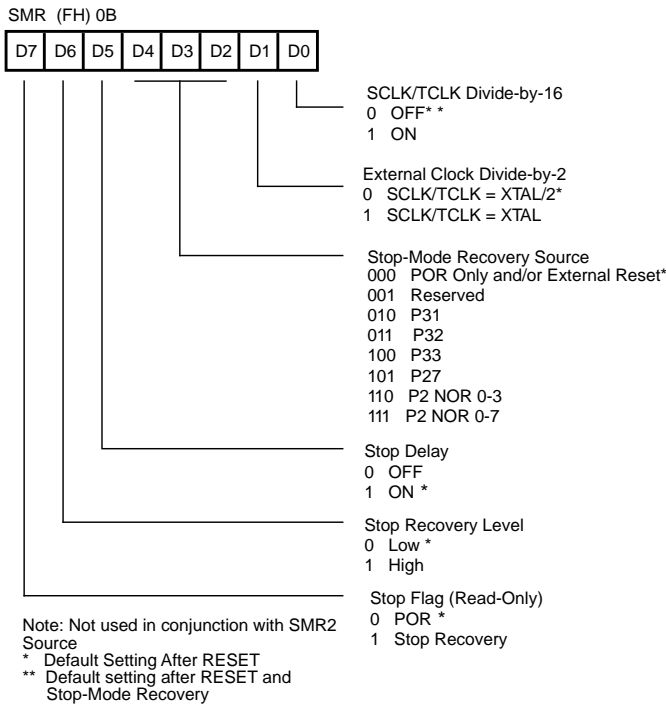
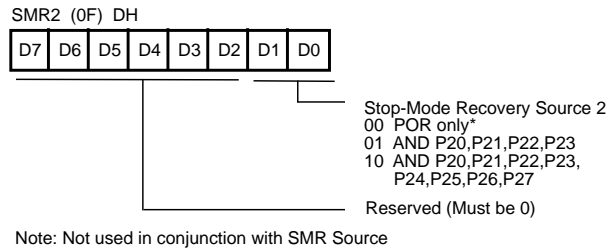

Figure 34. STOP-Mode Recovery Register (Write-Only Except Bit D7, Which Is Read-Only)
Figure 35. Stop-Mode Recovery Register 2 ([0F] DH: Write-Only)
**STOP-Mode Recovery (SMR) Register.** This register selects the clock divide value and determines the mode of STOP-Mode Recovery (Figure 34 and Figure 35). All bits are Write-Only, except bit 7, which is Read-Only. Bit 7 is a flag bit that is hardware set on the condition of STOP recovery and reset by a power-on cycle. Bit 6 controls whether a low level or a high level is required from the recovery source. Bit 5 controls the reset delay after recovery. Bits 2, 3, and 4, or the SMR Register, specify the source of the STOP-Mode Recovery signal. Bits 0 and 1 determine the timeout period of the WDT. The SMR Register is located in Bank F of the Expanded Register Group at address 0Bh. When the Stop-Mode Recovery sources are selected in this register, then SMR2 Register bits D0,D1 must be set to 0.